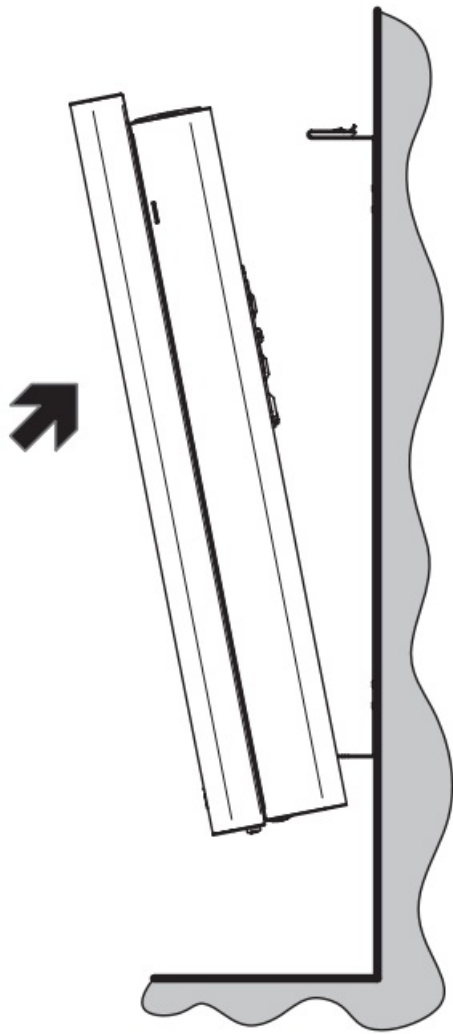

FIG. 3
1. Insert the lower hooks of the wall bracket in the device. **(FIG. 3)**